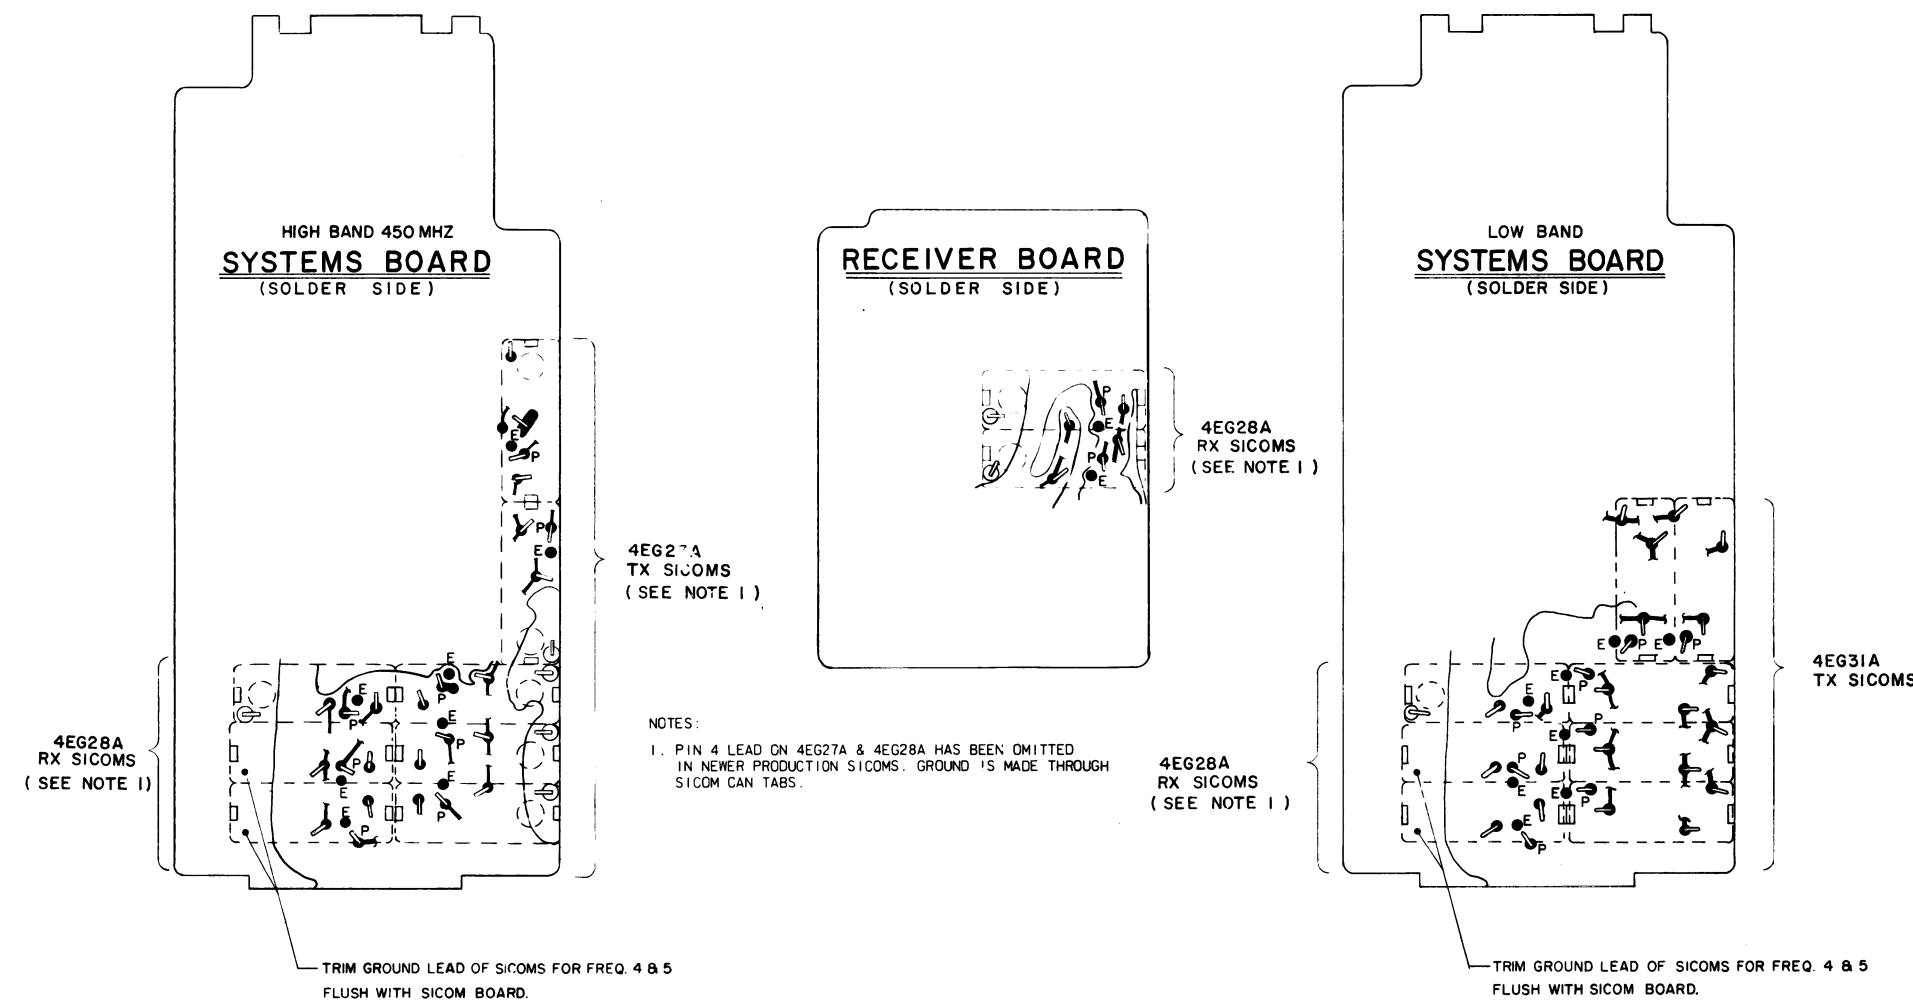
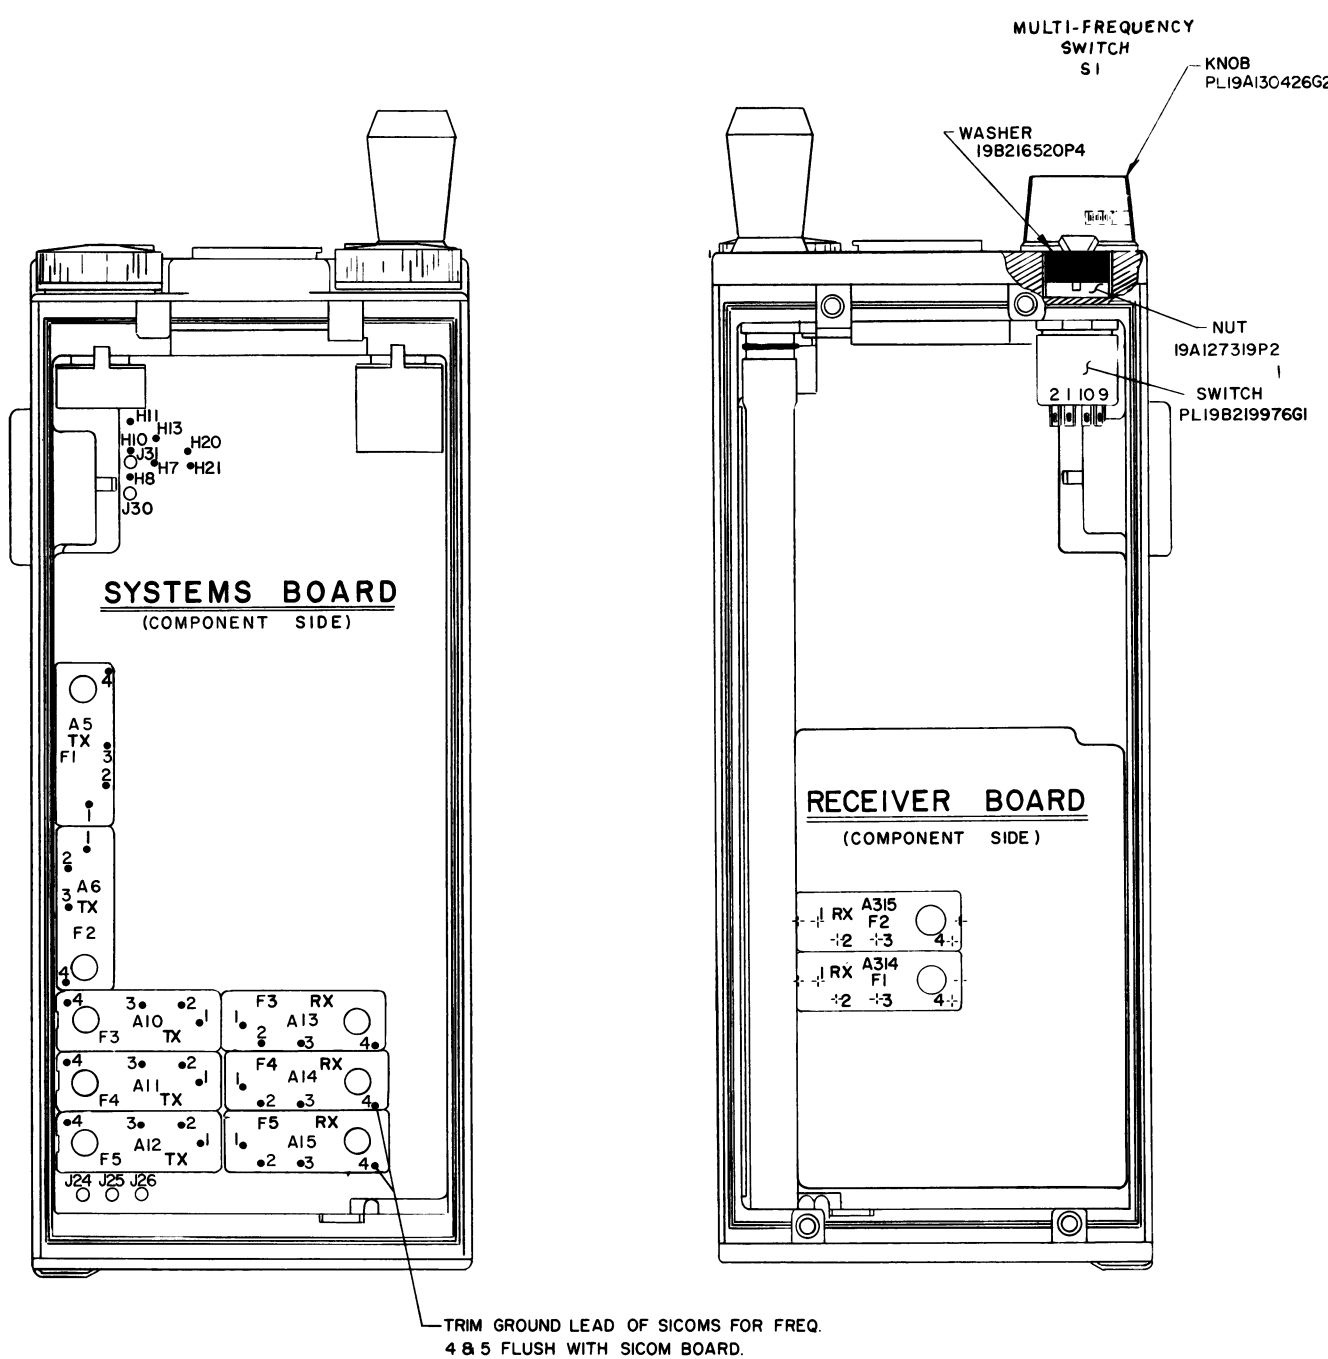

Figure 2 - Oscillator Module and Diode Installation
Figure 3 - Oscillator Mounting Positions & S1 Connection Points
1. After completing the stop post adjustment, connect the leads from multi-frequency switch S1 as shown in the following chart (see Figure 3 for connection points). Tape back all unused leads.
2. Place the oscillator module(s) in the proper holes (see Figure 3). Then bend over tabs on the can and solder to the adjacent pads (see Figure 2).
3. Bend the leads of the oscillator module as shown in Figure 2 (or appropriate Outline Diagram) and solder to the adjacent pads.
2. Install the oscillator(s) whose frequencies are to be repeated as directed above except solder the Number 2 pin to the "E" pad instead of the "P" pad (see Figure 2).